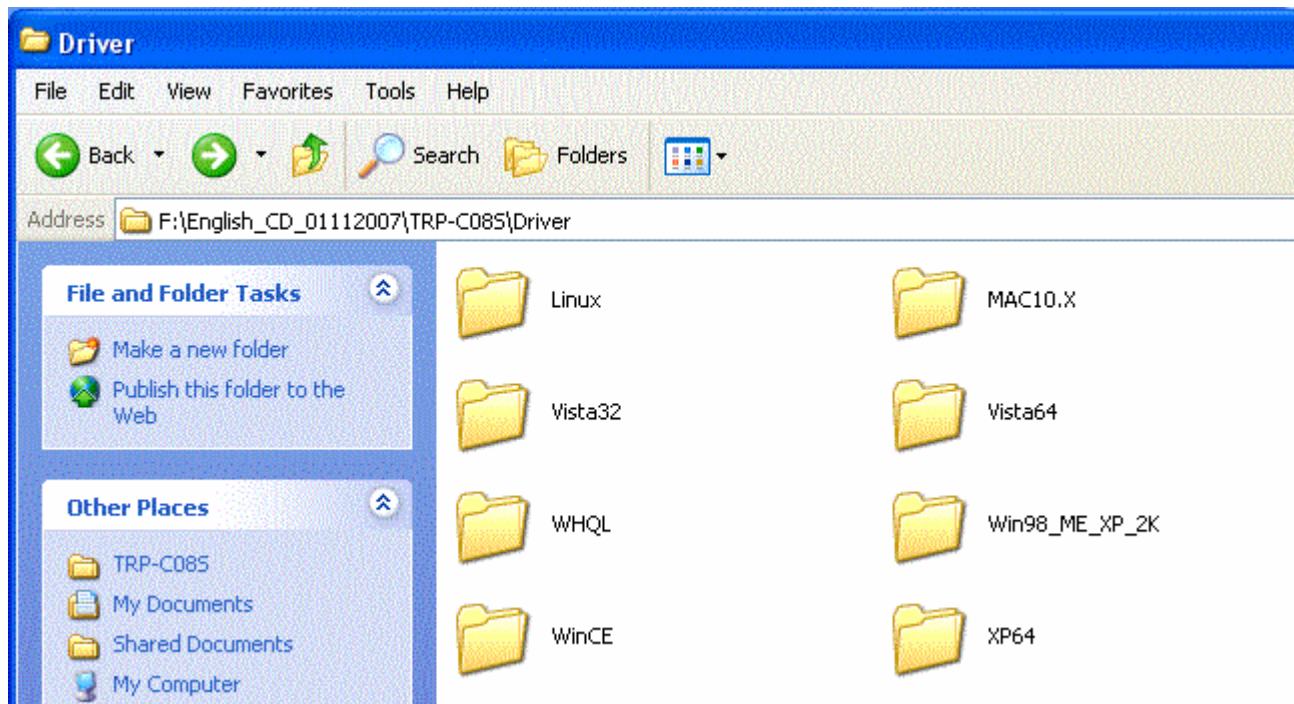

Fig.1
2. Put the driver CD in the CD-ROM then select the driver of O.S you want (See figure1)